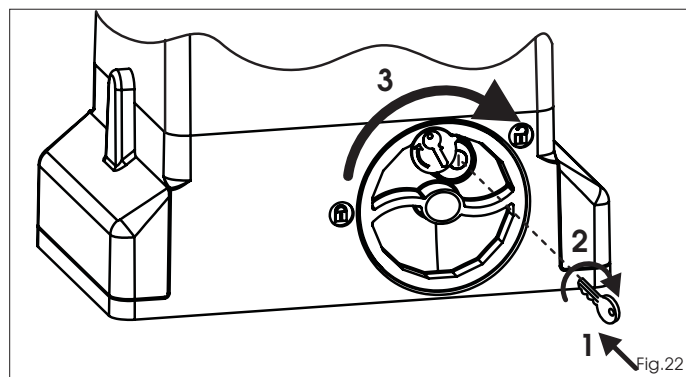

Fig.22
- 1) Insert the key provided and turn it clockwise as shown in Fig. 22 ref. 1 and 2.
- 2) Turn the release system clockwise, until the mechanical stop is reached, Fig. 22 ref. 3.